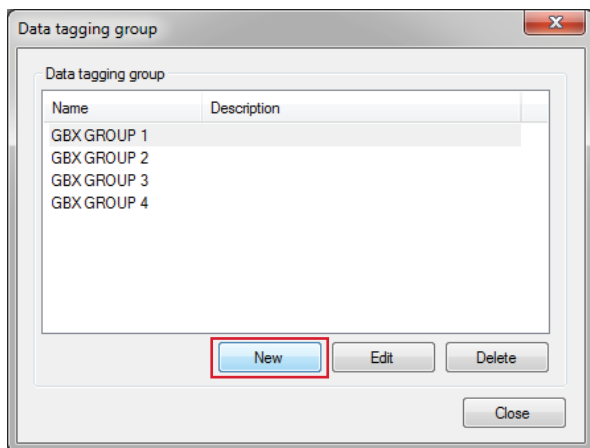

Fig. 2. Create a new data tagging group.
- In the **Data tagging group** window, click **New** (→ fig. 2).